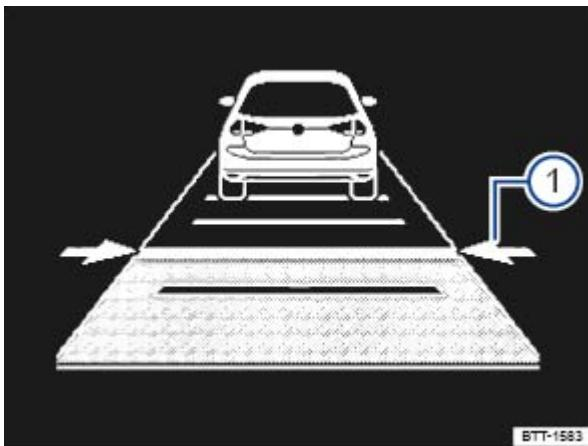

Fig. 127 In the instrument cluster display: distance interval is being set (displayed in color on an instrument cluster with color display).
The ACC display appears when the  button is pressed. The ACC display shows the current distance interval \Rightarrow Fig. 127① .